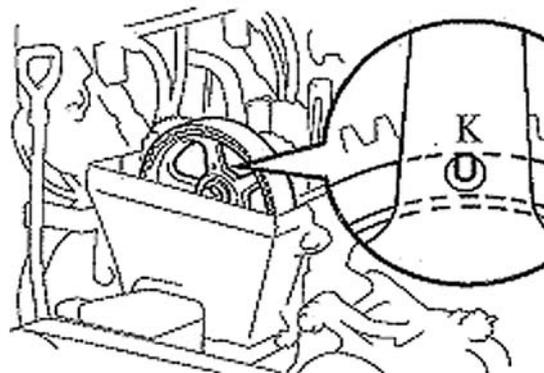

Figure 41
- (b) Check if the "K" mark on camshaft timing pulley and the timing mark on the bearing cap are aligned. Crank the crankshaft for 360 degrees if not. See (Figure 41).